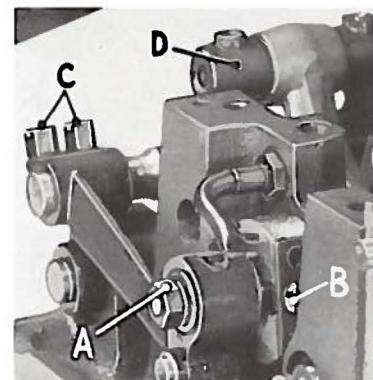

Fig. 3
To set feed dog travel to correspond with needle travel, loosen nut (A, Fig. 3) (it has a left hand thread) and adjust screw (B) until movement of needle and feed dog are synchronized. Turning screw in a clockwise direction shortens the travel of the feed dog and turning screw counterclockwise will lengthen the travel. Re-tighten nut.
Space the feed dog in the throat plate so there is a clearance of at least $\frac{1}{64}$ inch at all points and so the rear teeth pass beyond the rear of the presser foot. This is accomplished by loosening the screws (C, Fig. 3) which clamp the feed rocker arm to the feed rocker (D, Fig. 3) and moving the feed rocker forward or backward as needed.